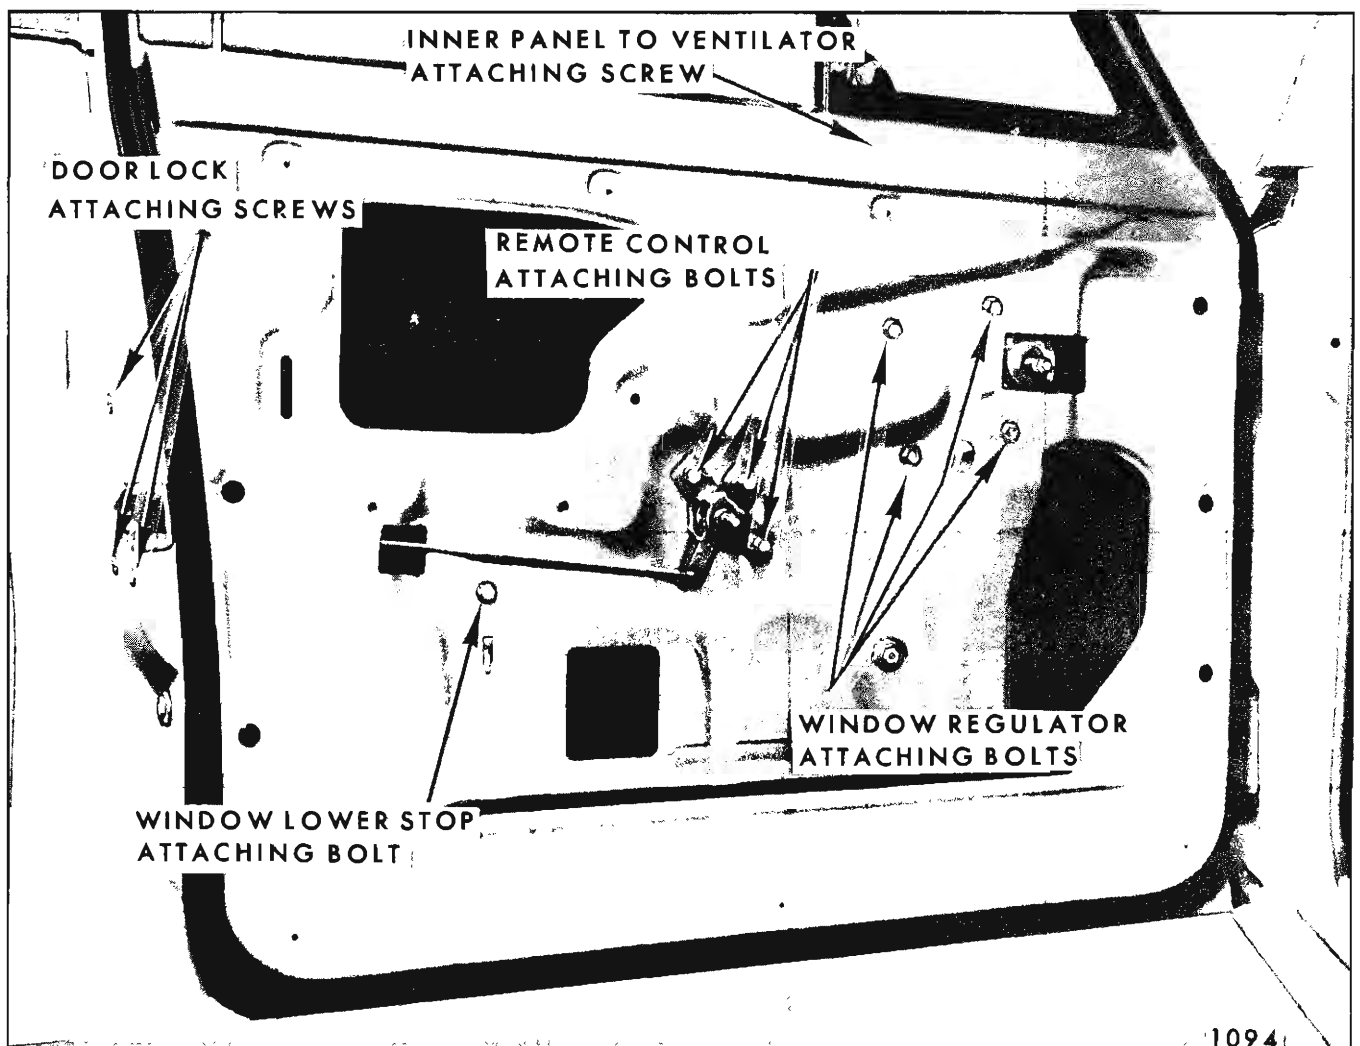

Fig. 2D30—Front Door Hardware
4. Remove remote control assembly and connecting rod from door (See Fig. 2D30).